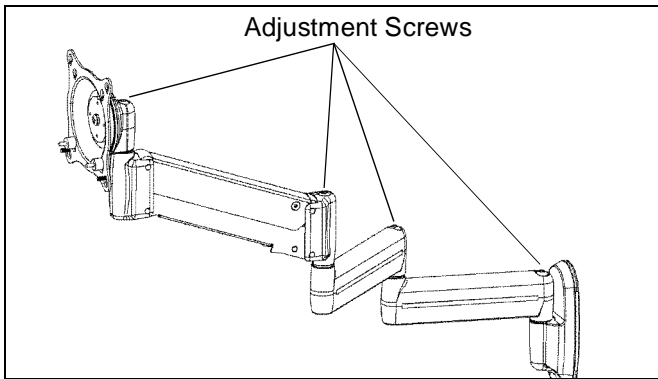

Figure 12
1. Using 3/16" hex key, slightly loosen or tighten the adjustment screw(s) as necessary (See Figure 12).